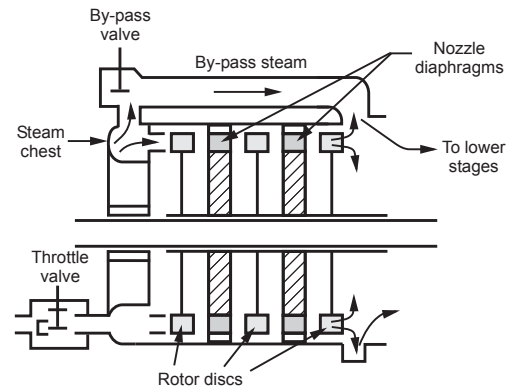

Fig. 3.53 : By-pass governing
- Thus, the by-pass governing is used to admit the additional steam through by-pass valve to the later stages. Refer Fig. 3.53.